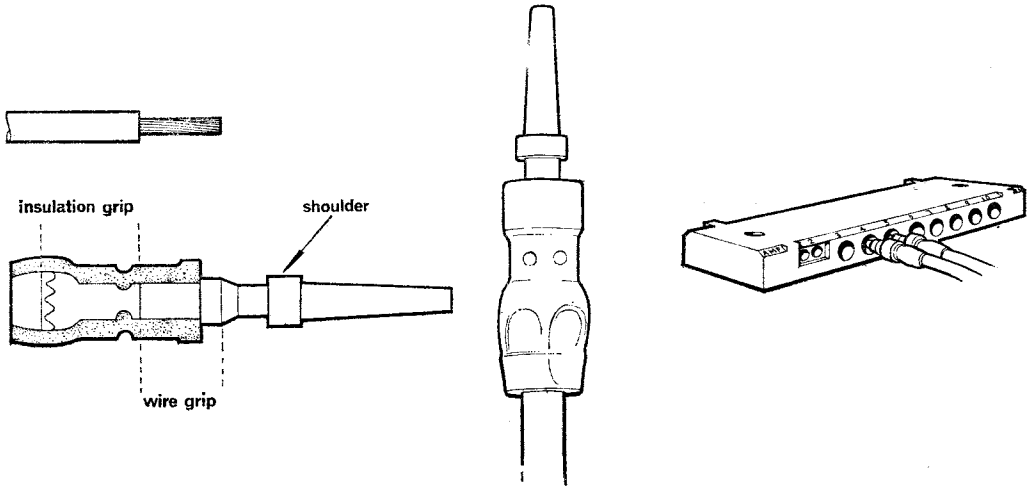

Fig. 10 Taper pins (PIDG type)
21. **PIDG pins.** These are $3\frac{1}{2}^\circ$ tapered solid pins with a small end diameter of .053 inch. They are made of brass and are supplied either gold or silver plated. They have a closed barrel wire entry, fitted with a bonded vinyl or nylon insulating sleeve (Fig. 10). The sleeve is colour coded; yellow for sizes 24-22 AWG, white for 20-18 AWG, and black for size 16 AWG. The mating receptacles are made from beryllium copper and are either gold or silver plated. They are supplied in a variety of moulded nylon and polythene blocks which have good dielectric properties and are designed to prevent moisture entrapment.